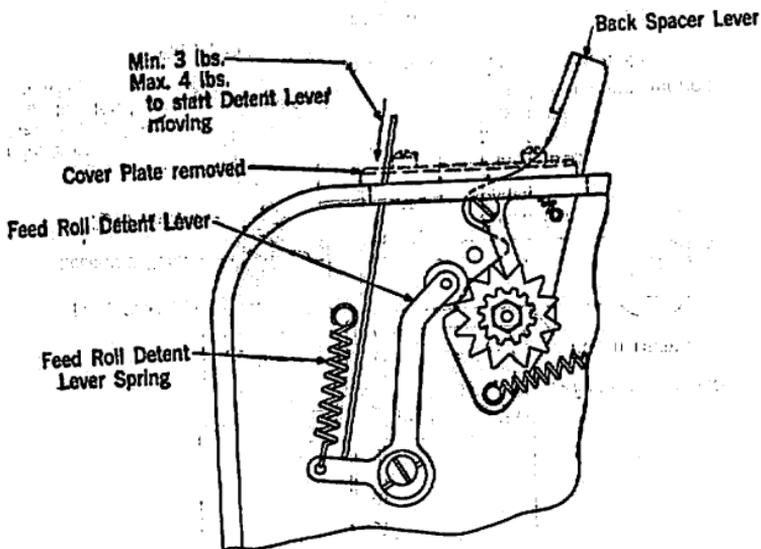

Fig. 6
3.12 Tension of feed roll detent lever spring shall be Min. 3 lbs., Max. 4 lbs. measured by pushing on spring end of detent lever as shown in Fig. 6.
3.14 Tension of back spacer lever spring shall be Min. 1 oz., Max. 1-1/2 ozs., measured adjacent to cover plate when the lever is in its released position. See Fig. 6.